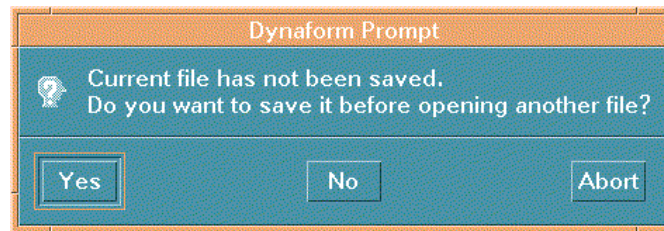

Figure 3.2.1 Open File Prompt
- If there is already a database opened, eta/DYNAFORM prompts the user to save the current file, see Figure 3.2.1.